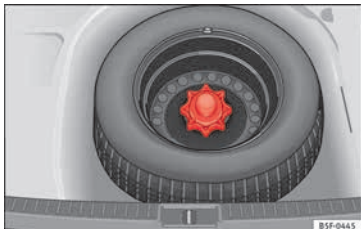

Fig. 240 Compact temporary spare wheel: raised floor panel.
- Lift and hold up the floor panel to remove the temporary spare wheel » **Fig. 240.**